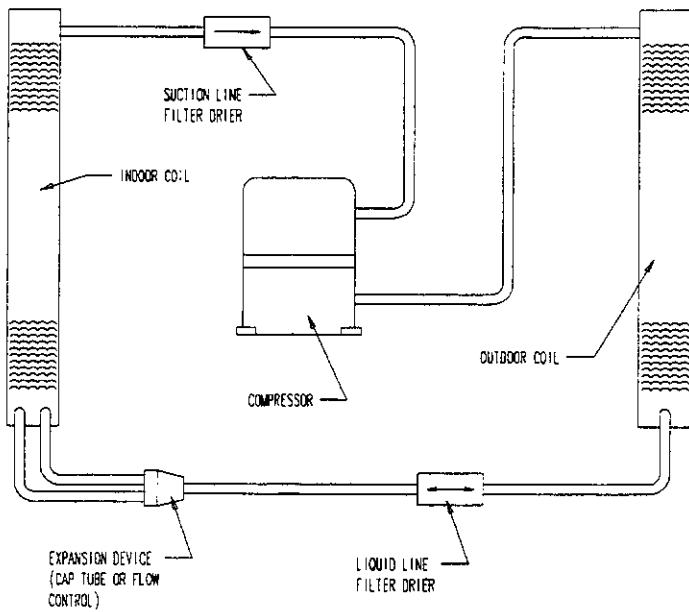

Figure 1 — Typical Air Conditioner Filter Drier Locations
- D. Figures 1, 2, and 3 illustrate the recommended locations for both the liquid line and suction line filter-driers on both air conditioning and heat pump systems. It is imperative that the filter-driers be installed as shown for the heat pumps to assure adequate protection and so that there is no reverse flow of refrigerant through the filter-drier.